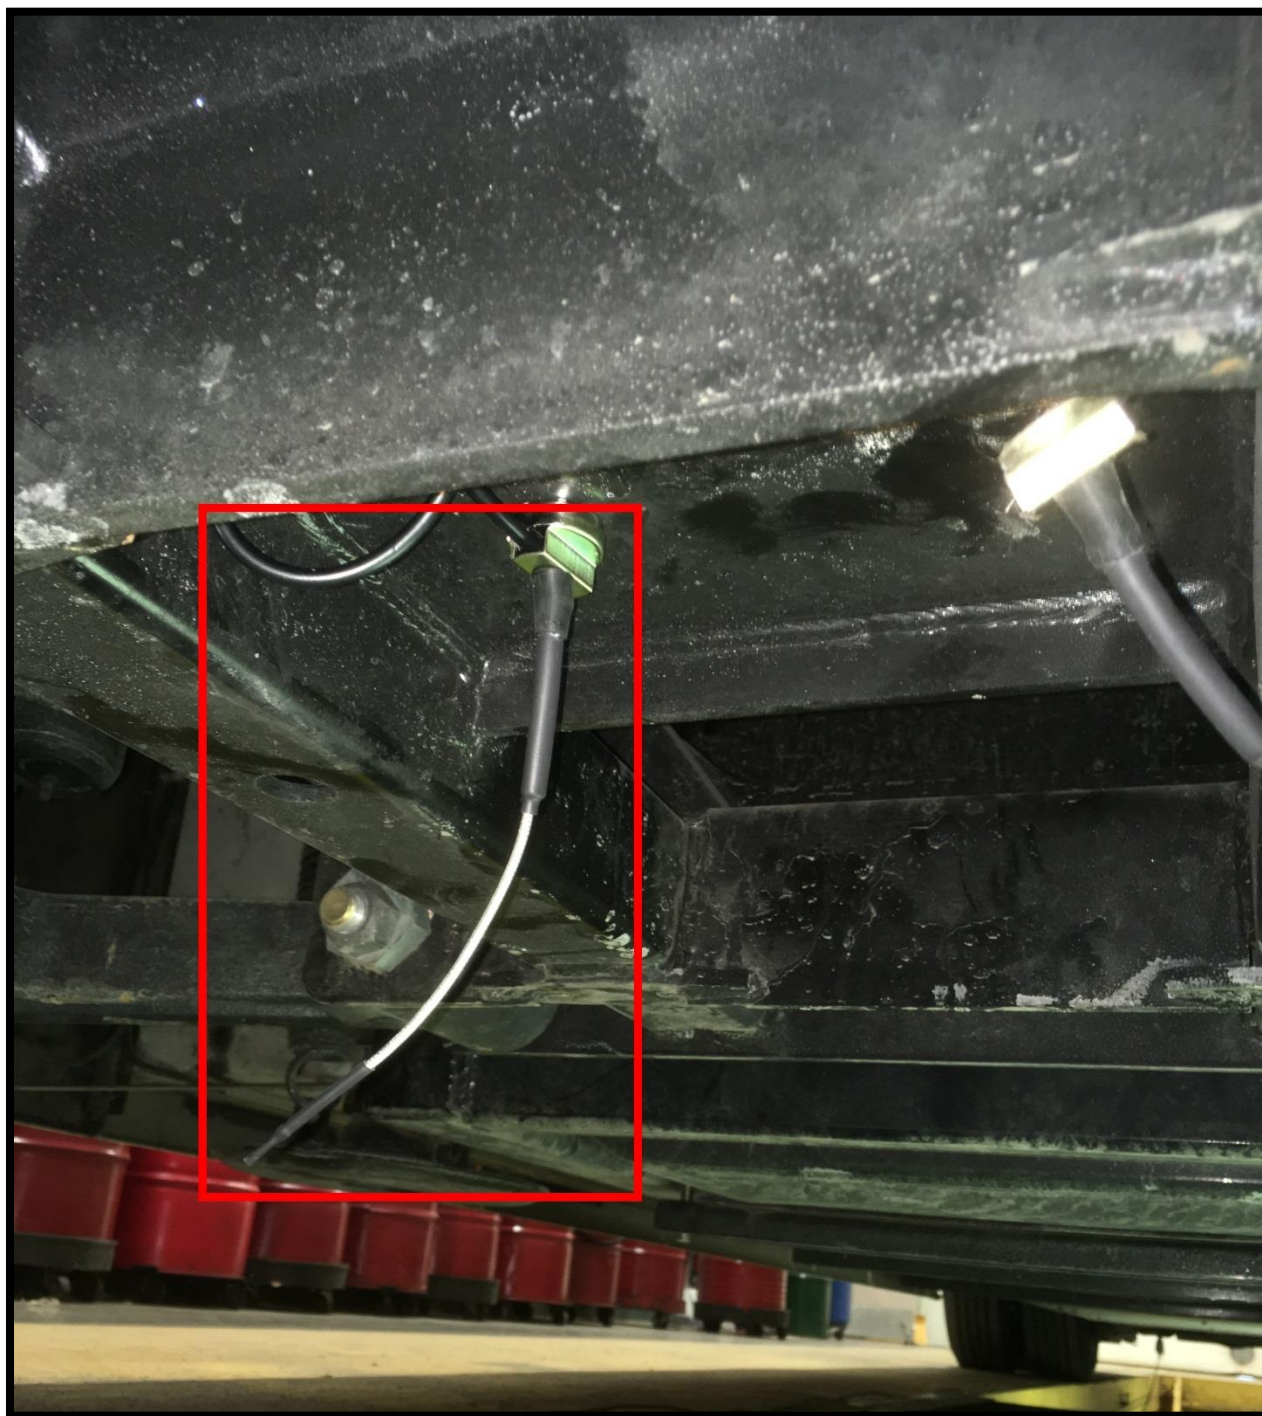

FIG. 3-1
8. Locate front TPMS antenna on top of IFS cradle; move it to bottom of IFS cradle facing downward. Refer to FIG. 3-1.